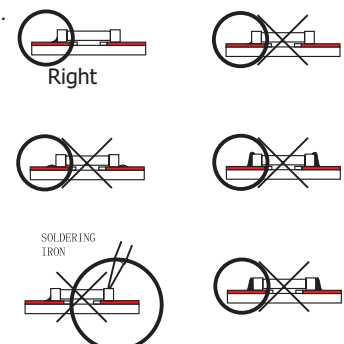

Fig. 3 Examples
- The quantity of solder must be proportional to the size of the solder land. If the quantity is too great, the SMD might crack or the solder lands might be torn loose from the printed board (see Fig. 3).